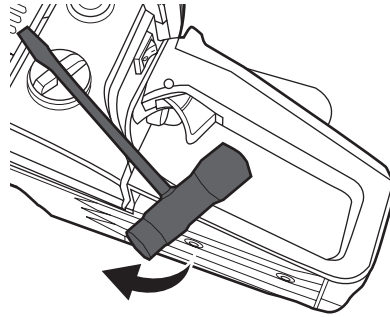

Fig. 19
- > Wipe up spilled fuel with a soft cloth and refit the fuel tank cap (28). Use the combination spanner (32) to tighten the cap (28) properly (Fig. 19).